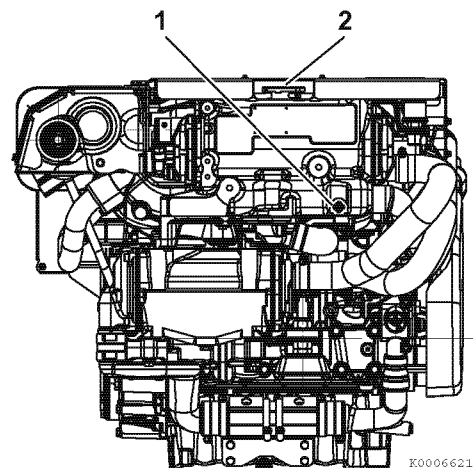

Figure 4-11
7. Install heat exchanger. Ensure the drain cock (1, **Figure 4-11**) on the heat exchanger is closed.
8. Remove the pressure cap (2, **Figure 4-11**) from the heat exchanger.